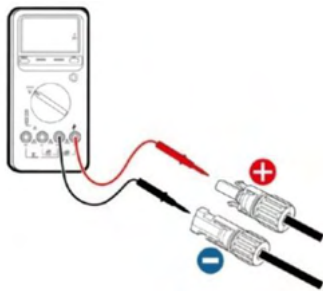

Fig 5.3 DC input polarity and voltage check
(2) Verify the polarity of the MC4 connector, make sure they are correct (see Fig 5.3). Check if the voltage of the PV string is within what's expected. Make sure to check each PV string.